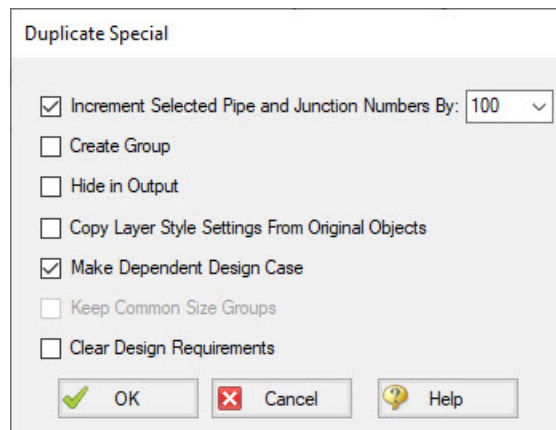

Figure 9: Duplicate Special settings to create a dependent design case
4. Open Duplicate Special (from the Edit menu), enter an increment of 100, deselect Copy Layer Style Settings From Original Objects, and select Make Dependent Design Case (Figure 9). Click OK.